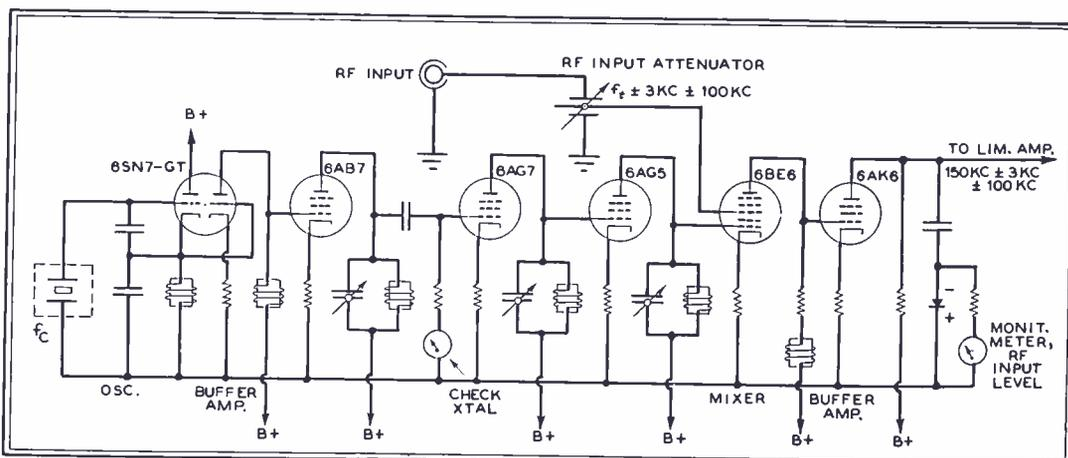

FIG. 4. SCHEMATIC DIAGRAM OF THE CRYSTAL OSCILLATOR AND THE RF SECTION
**Crystal Oscillator & RF Section** ★ The crystal oscillator is one developed at General Radio specifically for frequency monitoring. There are no tuning inductances, and the crystal operates very close to its true resonant frequency. High stability is obtained without critical circuit adjustments. Crystals can be interchanged with ease. The oscillator circuit is shown at the left of Fig. 4.
The crystal oscillator is followed by an aperiodic buffer amplifier and 3 harmonic multiplier stages. Fig. 4 shows the circuit arrangement.